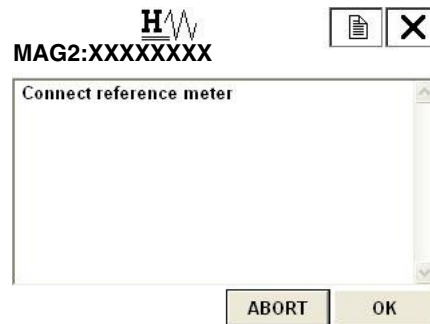

Figure 127.
3. Figure 127 then appears. Connect the device to measure excitation current to the both ends of the excitation check pin and press F4 (OK).